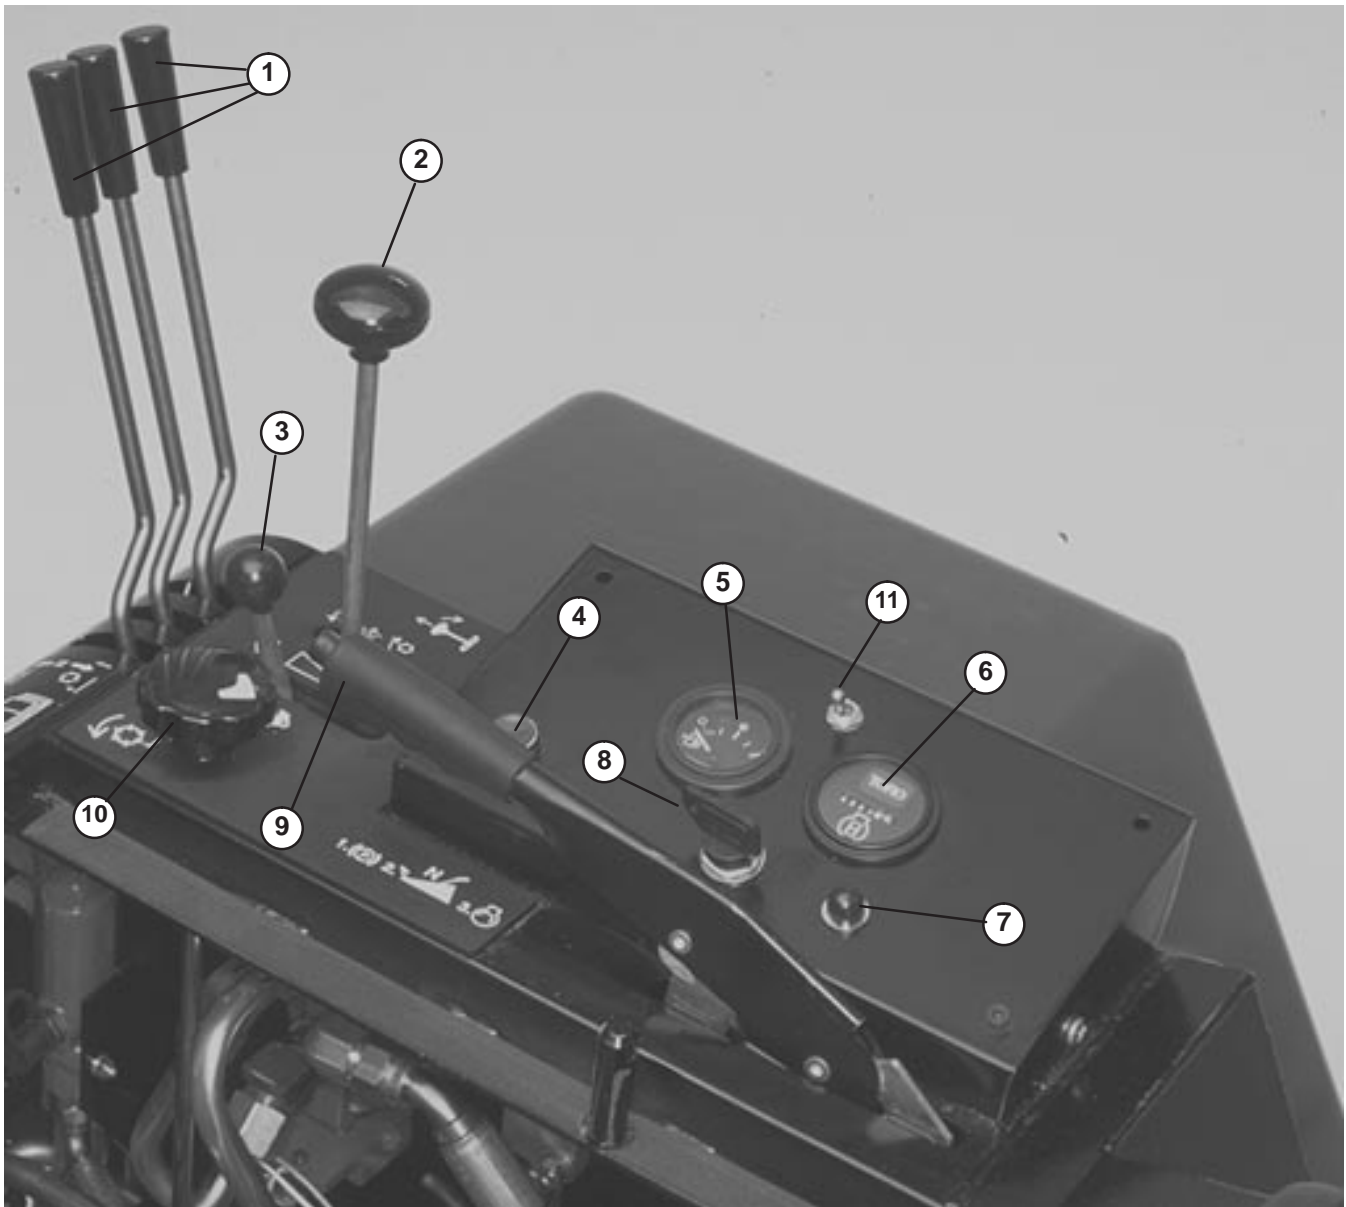

Figure 13
The two outside levers (Fig. 13) raise and lower the two outside cutting units. The center lever raises and lowers the two front and the center cutting units. Engine must be running to lower cutting units. When cutting units are lifted, reels automatically stop. Do not allow levers to snap-back to neutral, or cutting units may not float freely.
When button (Fig. 13) is depressed, engine can be operated after it has over heated and automatically been stopped by the electrical safety system. Use only for short intervals.
Gauge (Fig. 13) indicates amount of fuel in tank.
Hour meter (Fig. 13) indicates total hours that machine has been operated.
Light (Fig. 13) turns on when key is moved to ON position. Glow plugs engage for 10 seconds, then, light goes off when engine is ready to start.
Three positions: OFF, ON and START. Rotate key (Fig. 13) to START and release key when engine begins running. To stop engine, rotate key to OFF.
Pull lever (Fig. 13) up to lock brake. To release brake, pull up on lever, press button and lower lever. Brake must be engaged to start engine. Always engage parking brake before getting off seat.
Move lever (Fig. 13) forward to engage cutting units. Move lever to the center to stop the cutting units. To backlap cutting units, lift lever over stop and hold in the rear position.
Rotate knob (Fig. 13) clockwise to increase reel speed, counter-clockwise to decrease speed. Use in conjunction with the ground speed limiter to achieve appropriate rate of clip.
Move control (Fig. 13) forward to increase engine speed, backward to decrease speed.
Move switch (Fig. 13) forward to engage 4 wheel drive. Move switch to rear position to disengage 4 wheel drive. (4 wheel drive model only)
1. Sit on the seat, keep foot off traction pedal. Assure parking brake is engaged (Fig. 13). Traction pedal and mow/backlap lever must be in neutral.
2. Sit on the seat and engage parking brake (Fig. 13). Turn key and try to start engine with Mow–Backlap lever (Fig. 13) in both the MOW and BACKLAP positions. If engine cranks, there is a malfunction that must be repaired immediately. If engine does not crank, the cutting unit drive switch is operating properly.